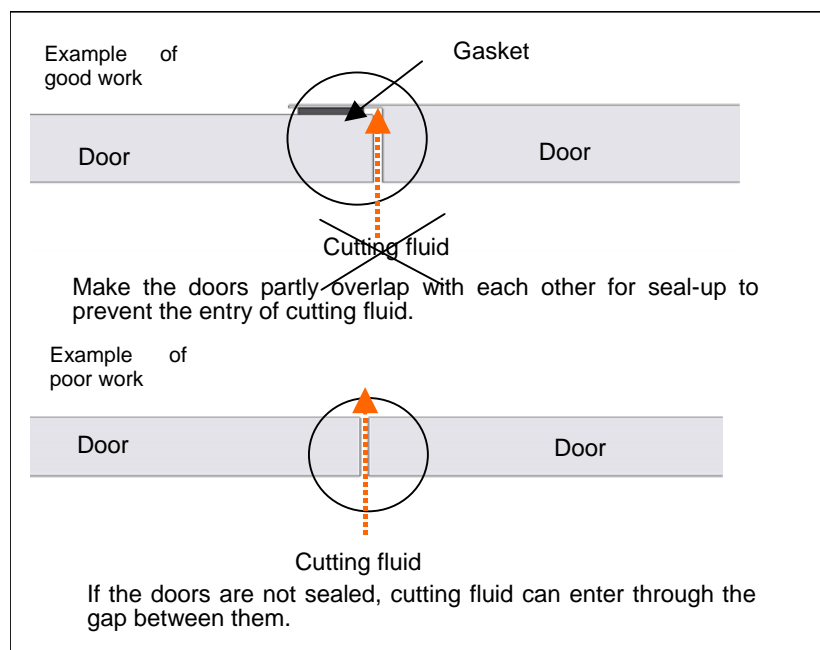

Fig. 7 Double-door structure seal-up (cross-section view of portion where the doors meet)
- 3) If the cabinet has a double-door structure, use a gasket between the doors (Fig. 7).